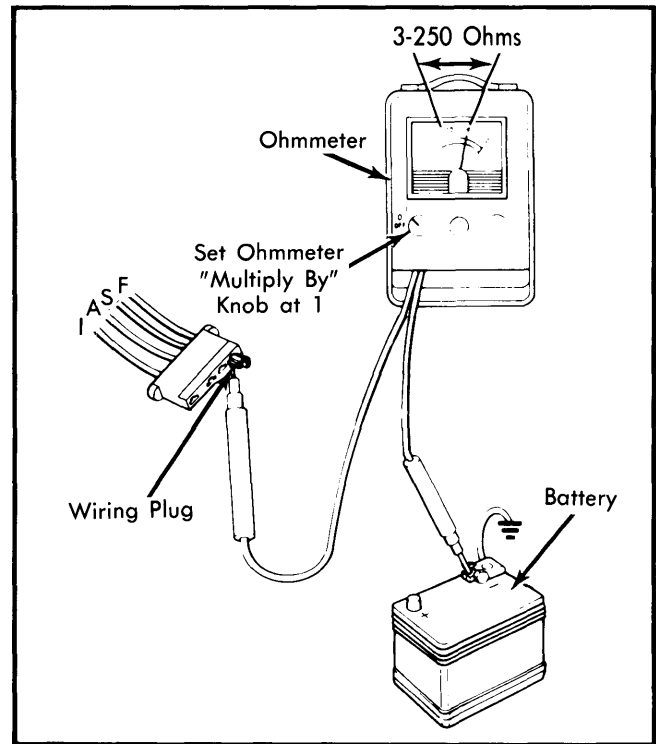

Fig. 3 Test Connections for Field Circuit Test
1) To determine if the jumping procedure is safe, the field circuit should be checked with the regulator wiring plug disconnected and an ohmmeter connected from the "F" terminal of the wiring plug to the battery ground. The ohmmeter should indicate 3-250 ohms. See Fig. 3.